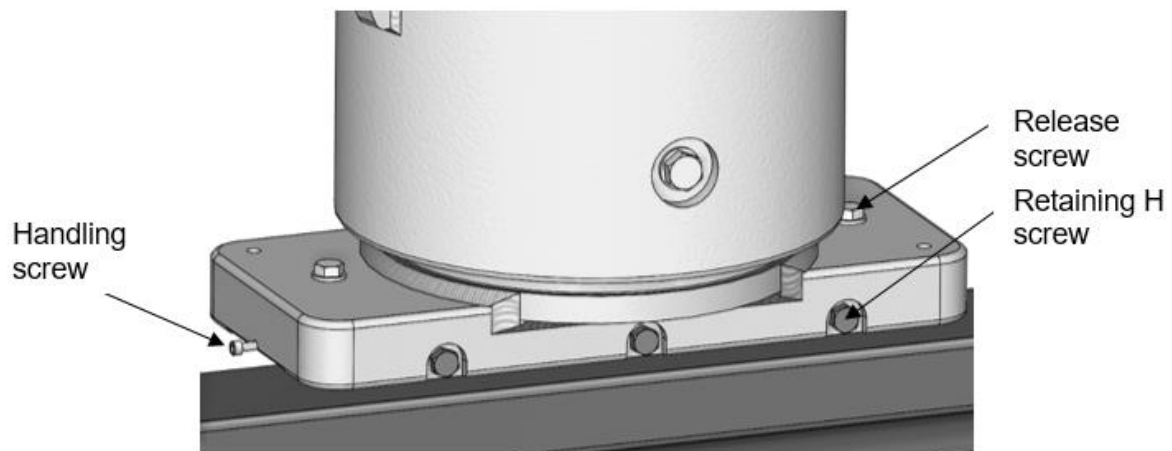
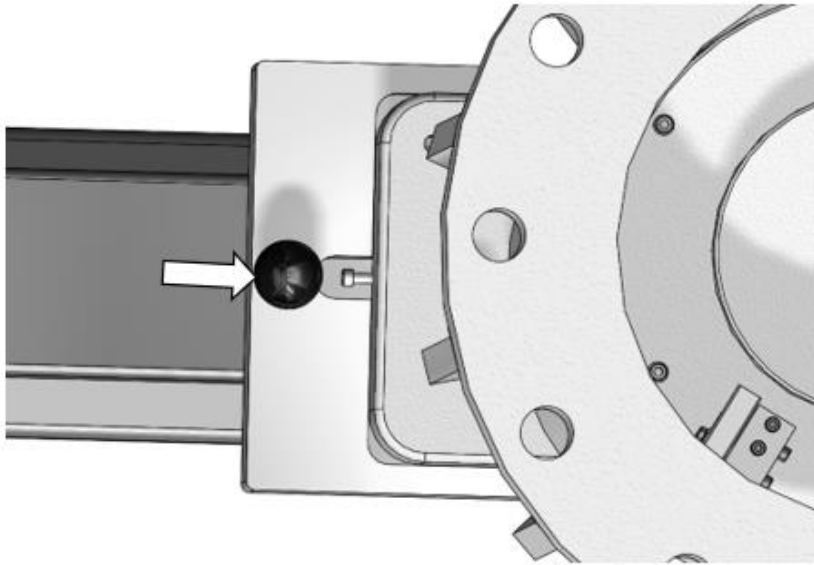
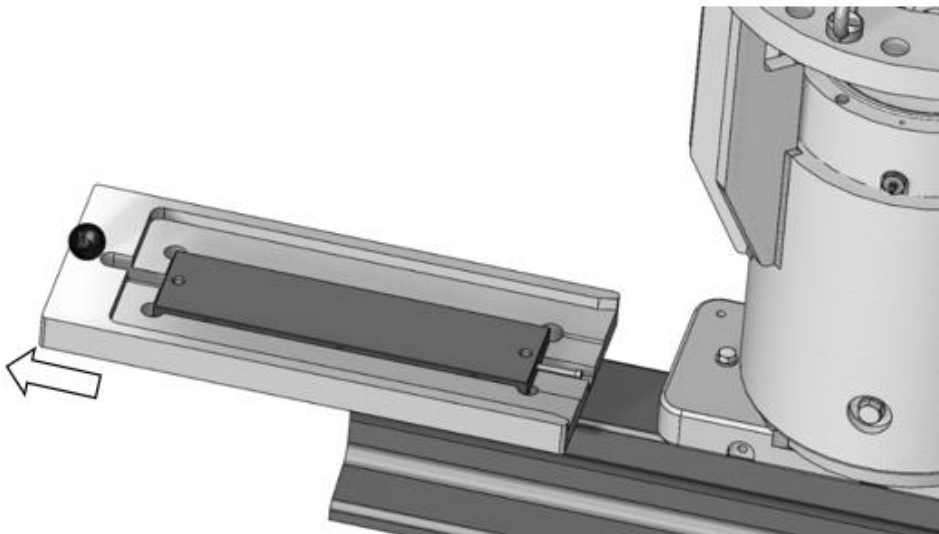

Fig. 5.5
Fig. 5.6
Fig. 5.7
6. Bring the transport trolley (supplied) under the rail-brake by sliding it until it stops on the pad holder see Fig. 5.6. Place the pad on it see Fig. 5.5. Always grip the pad using the two handling screws. If necessary, use the two release screws to facilitate removal of the pad from its cavity see Fig. 5.7. Attention never put your hands under the rail-brake.